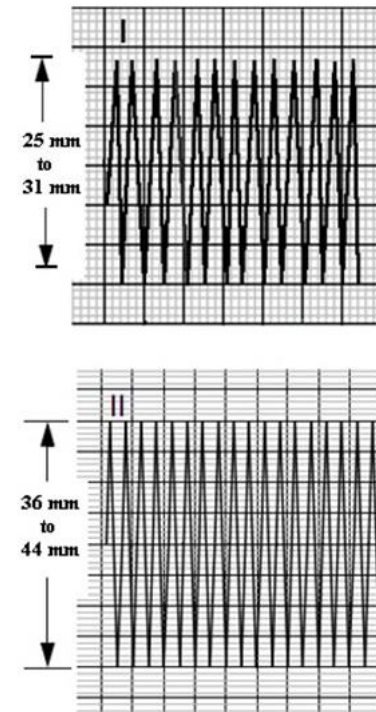

Figure 1.13: ECG Gain at Lead I and Lead II
4. Print five seconds of ECG Lead I, and confirm the printed signal amplitude is 25 mm to 31 mm, peak-to-peak as shown in Figure 1.13.
6. Print five seconds of ECG Lead II, and confirm the printed signal amplitude is 36 mm to 44 mm, peak-to-peak as shown in Figure 1.13.